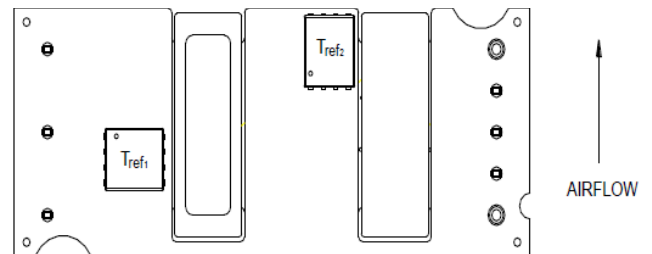
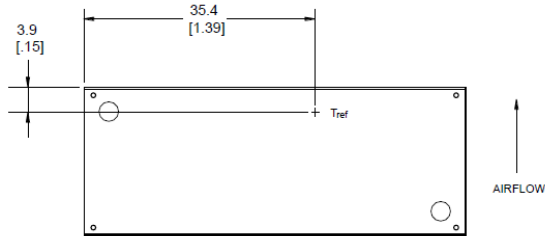

Figure 13. Tref Temperature Measurement Locations for Open Frame Module.
Figure 14. Tref Temperature Measurement Location for Module with Heatplate.
To provide protection under certain fault conditions, the unit is equipped with a thermal shutdown circuit. The unit will shutdown if the thermal reference point, T_{ref} , exceeds 135°C (Figure 13, typical) or 120°C (Figure 14, typical), but the thermal shutdown is not intended as a guarantee that the unit will survive temperatures beyond its rating. The module will Overtemperature Protection automatically restart upon cool-down to a safe temperature.
The thermal reference point, T_{ref1} and T_{ref2} used in the specifications for open frame module is shown in Figure 13. For reliable operation this temperature should not exceed 122°C and 123°C
The thermal reference point, T_{ref} , used in the specifications for modules with heatplate is shown in Figure 14. For reliable operation this temperature should not exceed 100°C.